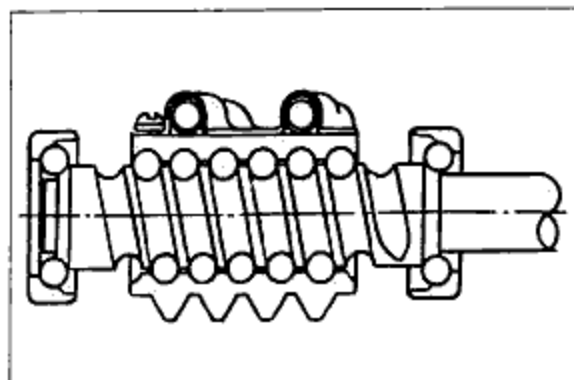

Fig. 10-21
- Fix the shaft as shown in the figure 10-21 and check if the nut drop rotating by its self-weight.